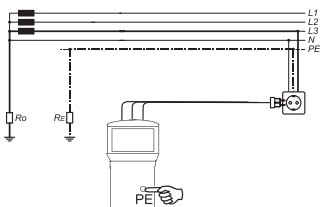
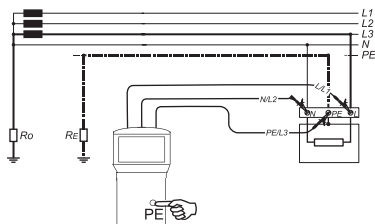

Figure 5.3.2 Connection mains internal resistance, test with shockproof plug
Figure 5.3.3 Connection mains internal resistance, test with test leads
- Connect the desired test leads to the UUT. Please refer to Figure 5.3.2 or Figure 5.3.3 for connection.